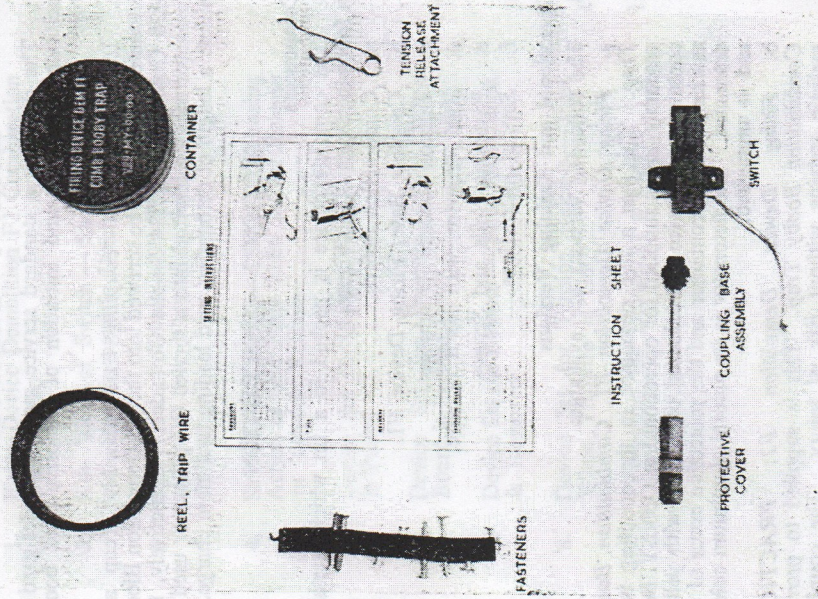

Figure 1
- a. Acquaint all arms with the Firing Device Demolition F1, Combination Booby Trap (See Figure 1).
1. Composition Book, Job (See Figure 1).
3. The complete device is packed in a tin which contains the following items (See Figure 1):